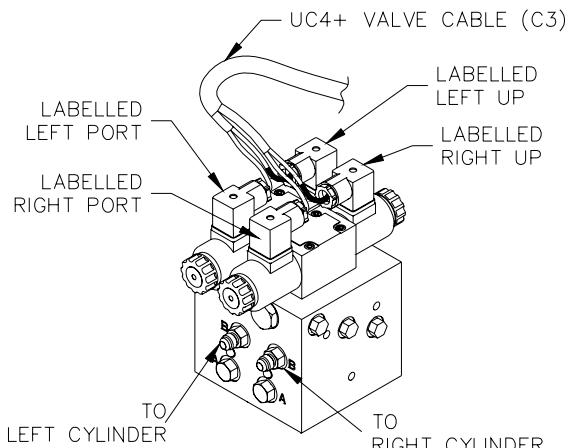

Figure 23 – Valve Cable Connections
14. As shown in **Figure 23**, the connectors on **C03** are marked **RIGHT UP**, **LEFT UP**, **RIGHT PORT** and **LEFT PORT**. Cables labeled with **PORT** go on the side as the hydraulic hoses. Fasten with the included rubber seals and screws.